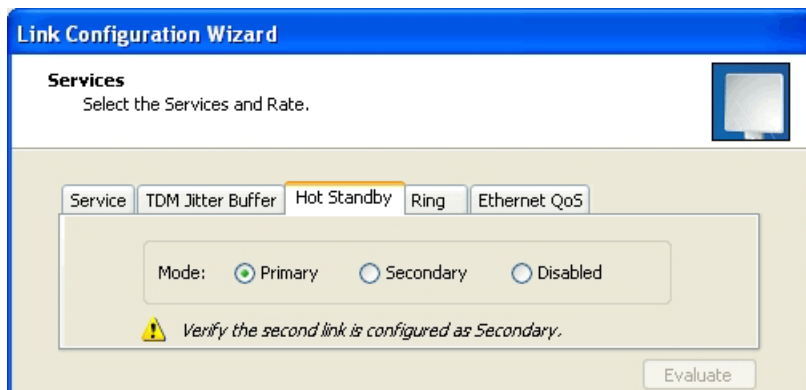

Figure 15-4: Services Configuration Panel: Hot Standby mode selection
2. Run the Configuration manager on the secondary link, and in the Hot Standby panel of Figure 15-4 above, check the Disabled button.
5. Again, run the Configuration Wizard on the secondary link, and in the panel of Figure 15-4 above, check the Secondary button to re-enable the link as secondary.
- Hot Standby mode – using the new Services panel in Figure 15-4 above
2. Run the Link Manager and use Hot Standby tab of Figure 15-4 above to configure the new ODU to Primary or Secondary mode as required.